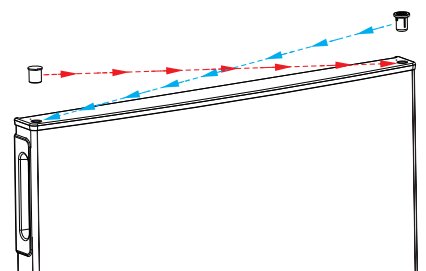

Fig. 14
- ▶ Insert the blind plug into the hole on the right-hand side (Fig. 14).